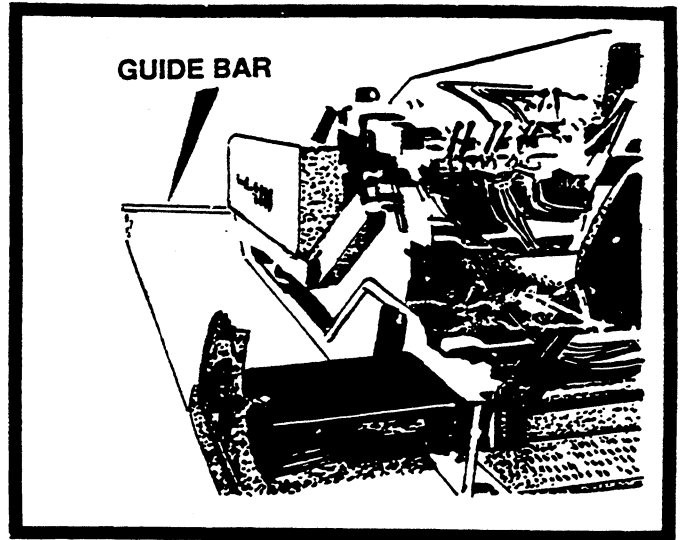

FIGURE 17
- B. Make sure to use a reference guideline. This can be a curb, gutter, adjacent mat or a string line. It is important that the first pass be straight as it will be the guideline for the following passes. Use the guidebar gauges as shown in Figure 17.